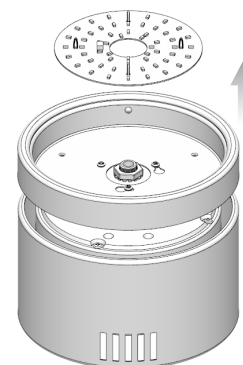

Fig. 1.1
1.1 Take the motor assembly out of the box. Then, detach the LED light kit from the light kit pan directly, as it is held by magnets as shown in Fig. 1.1.